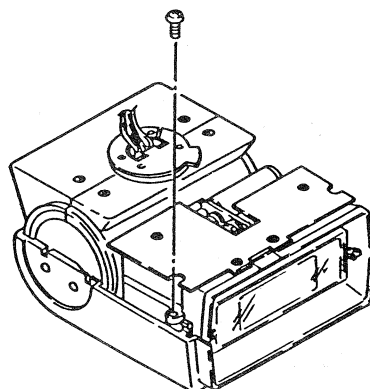

Fig. 10
- 6.4 Remove the two screws holding the zoom unit and it and the top cover can be removed (Fig. 10)